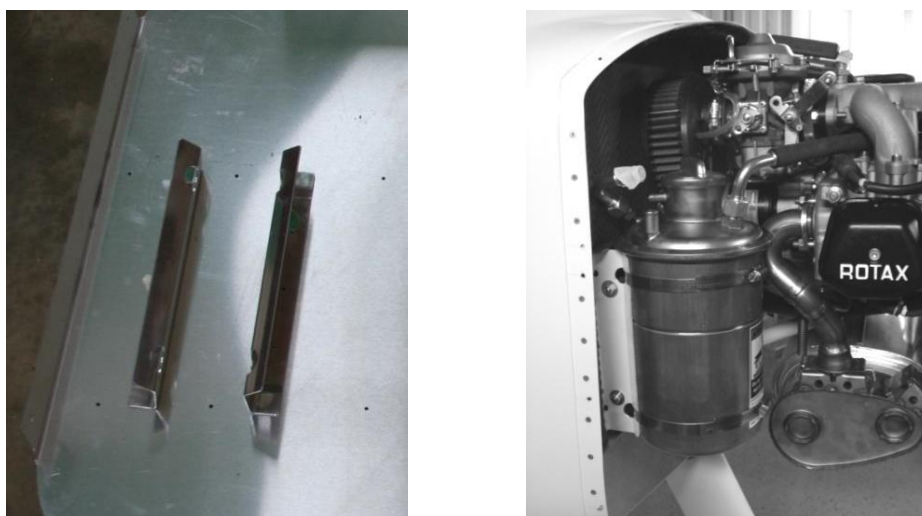

Figure 215 Oil tank mounting
- e) The water temperature gauge sender T piece should be installed in the front port water pipe on top of the engine, Fig 215